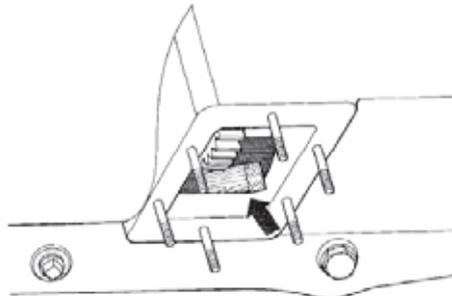

Figure 18 Wedge Location
- a. Insert a wooden wedge between the transmission PTO drive gear and the transmission housing (Figure 18).